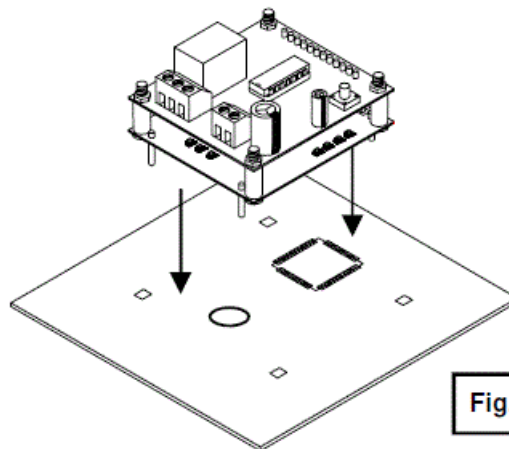

Fig. 6.0
- Place the unit onto the front panel (fig. 6.0)